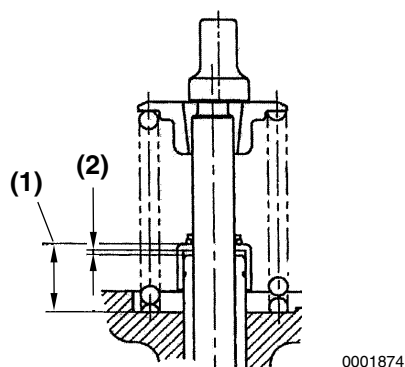

Figure 6-29
2. Measure the distance (**Figure 6-29, (1)**) from the cylinder head to valve stem seal to ensure proper clearance (**Figure 6-29, (2)**) between the guide and the seal. See *Intake / Exhaust Valve and Guide* on page 6-7.